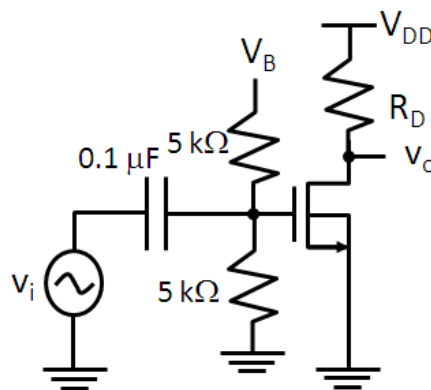

Fig. 2: The common-source amplifier.
1. According to Fig. 2, please build a common-source amplifier on your breadboard with the power supply voltage and the gate voltage fixed at 5.0 V (the power supply has a fixed 5-V output) and 2.0 V, respectively (make sure that COM1 and COM2 are connected together). You should use the NMOS transistor without body effect (node 6-7-8). Please add bias resistors of 5 k Ω and a coupling capacitor of 0.1 μ F to apply the input signal to the gate. With simple hand calculation, please determine the load resistor necessary to achieve a small-signal gain in the range between **15 dB to 20 dB** at the mid-band. Please explain your design process.